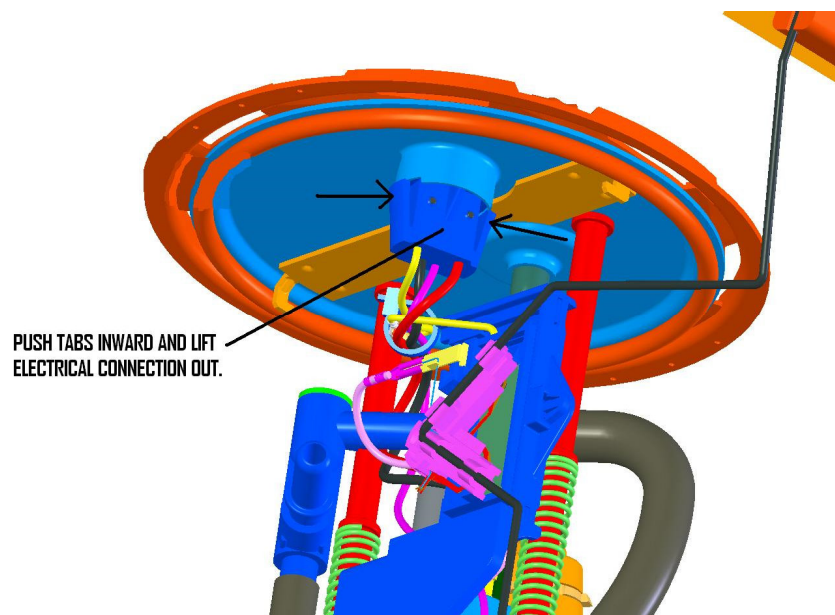

FIGURE 1-3
10. Only two parts will be used off the hanger assembly, the electrical connection and fuel level sensor. Remove the electrical connection as pictured in **FIGURE 1-3.**